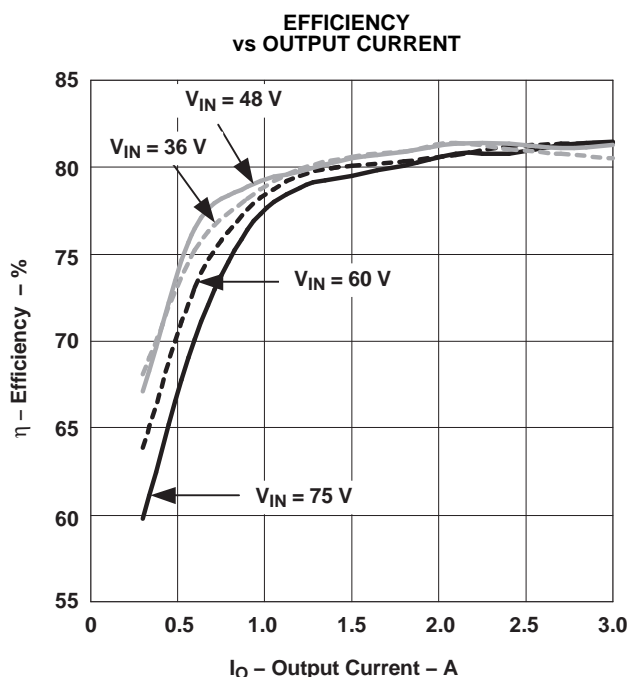
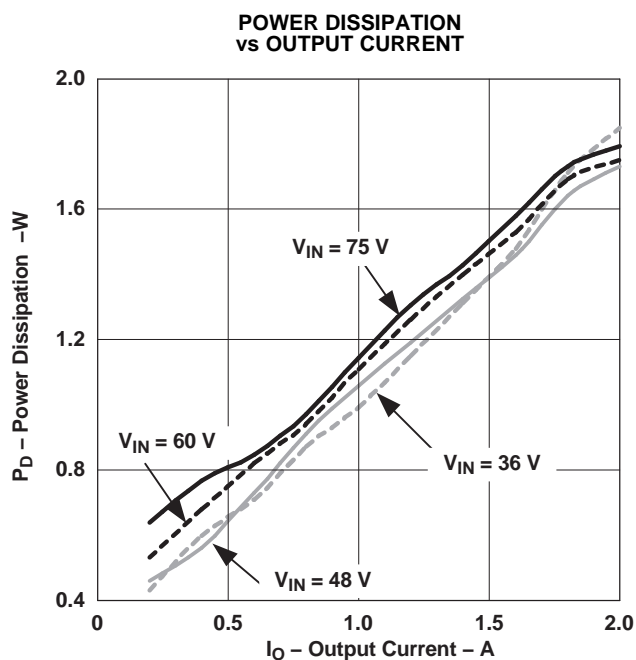
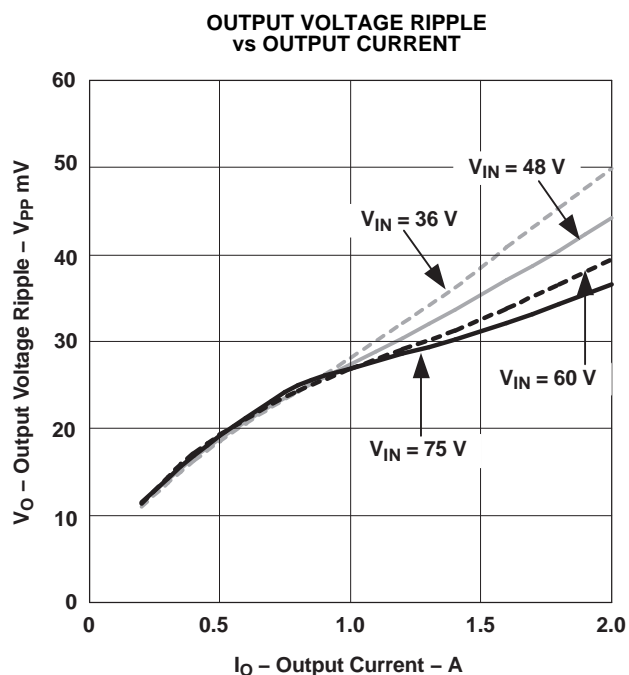

Figure 5.
Figure 6.
Figure 7.
- (3) All data listed in Figure 5, Figure 7, and Figure 6 have been developed from actual products tested at  $25^{\circ}\text{C}$ . This data is considered typical data for the dc-dc converter.